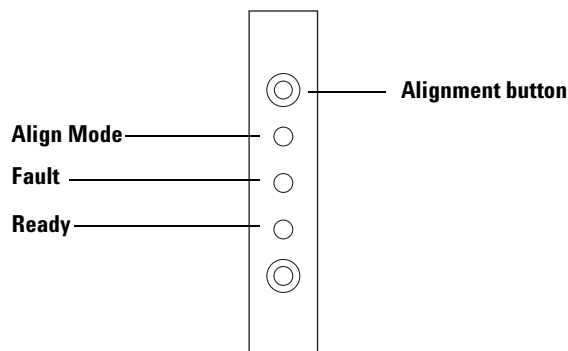

Figure 69 Aligning the injector
- 4 Use a long, narrow object to press the recessed Alignment button above the indicator lights. Avoid contact with anything behind or around the button inside the recessed hole (Figure 69).